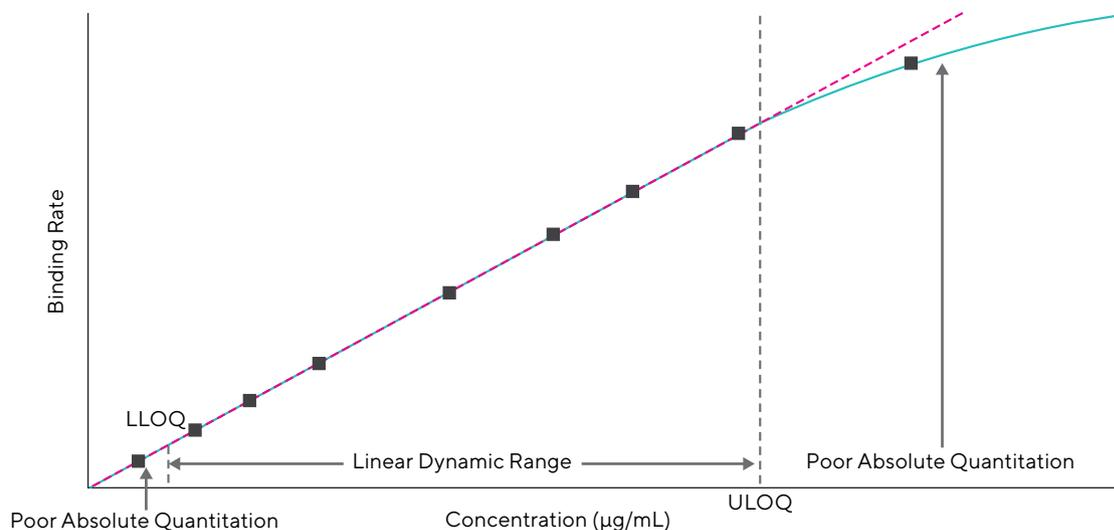

Figure 1: Standard curve showing limits of detection and quantitation. For optimal results, always work within the linear dynamic range of the standard curve.
- Samples measured should be within the concentration range defined by the standard curve, and within the linear dynamic range of the standard curve (Figure 1).
- If the concentration of an unknown is too high (outside the linear range of the standard curve), dilute the unknown into the linear range and repeat the experiment (Figure 1).
- Test assay precision by measuring replicates of the same sample and calculating the coefficient of variance (CV). Two or three replicates can be used depending on the assay criteria defined by the user.
- Inspect the locations of unknown samples on the standard curve. If they are outside the concentration range defined by the standards, the results of these unknowns are not reliable and should be excluded. If the unknowns are located on the upper end of the standard curve that is plateauing out of the curvature (outside the linear dynamic range), the results are not ideal for accurate quantitation. Sample measurement should be repeated by diluting the samples so the concentrations fall within the linear dynamic range of the standard curve (Figure 1).